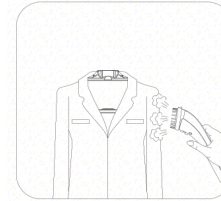

Fig. 15
- Hold steam brush and made the steam pole out of body, use steam brush touch the cloth vertically gently start ironing, Fig.15., from upside to downside.